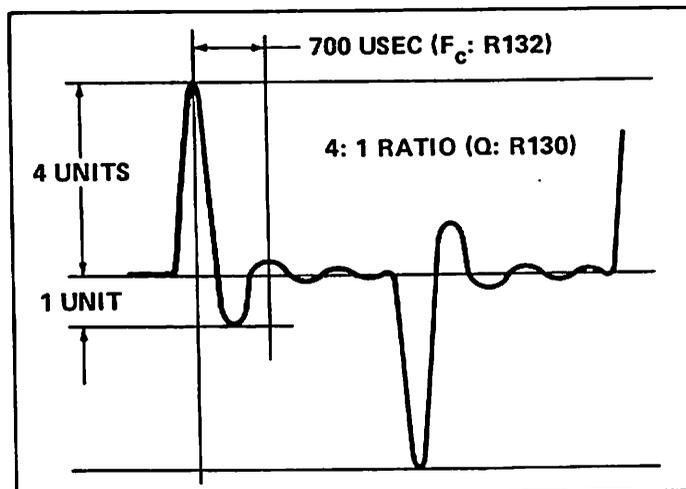

FIGURE 4-7 BAND PASS FILTER Q AND F_c AT Q41 SOURCE
b) Depress 1 OCT tab switch and C key one octave up from bottom of keyboard and adjust band width and center frequency trimpots R130 and R132 to obtain waveform shown in Figure 4-7.